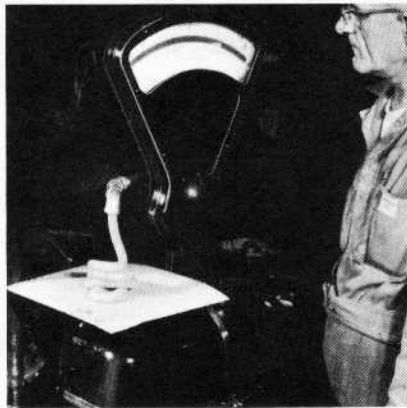

Fig. 3 - Weighing Grease
3. Carefully weigh grease, Fig. 3, for the specified bearing to be packed. Chart I gives the proper quantity for the component parts of each type of bearing.